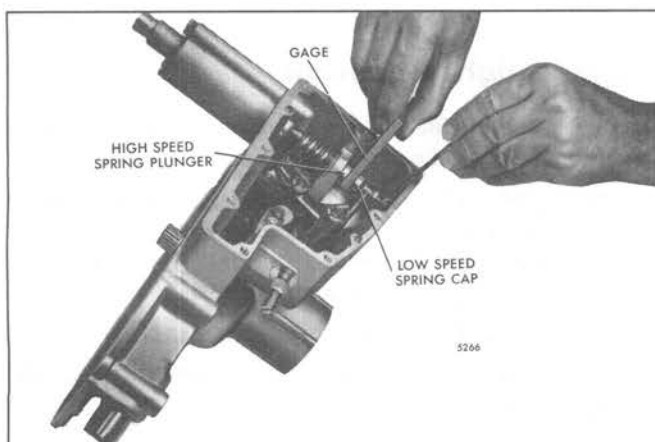

Fig. 7 – Adjusting Governor Gap (Single Weight Governor) with Feeler Gage J 23478
- Check the gap between the low-speed spring plunger and the high-speed spring plunger with gage J 23478 (.200") – (Fig. 7). Be sure the external starting aid screw (if used) is backed out far enough to make it ineffective when making this adjustment.